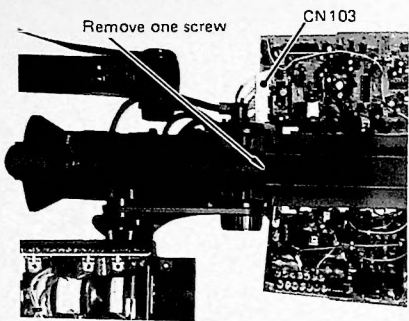

Fig. 7-1
- Disconnect the connector CN103 for the microphone from the deflection circuit board, and remove the microphone unit by removing the one fixing screw. (Fig. 7-1)